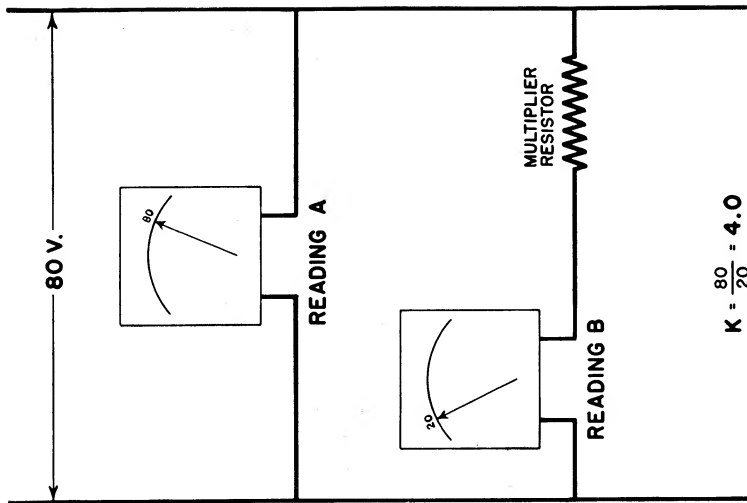

Fig. 3
B). (See Figure 3.) Now divide reading (A) by reading (B) to obtain the constant (K) of your multiplier resistor. Then, using the voltmeter with the multiplier resistor in series, make readings and multiply all of the readings thus made by the (K) to obtain true voltage. The resistor so calibrated and tagged with the (K) value can be used with the same voltmeter again without recalibration. It is desirable, but not necessary, to select a resistor that will make the (K) value an even number.